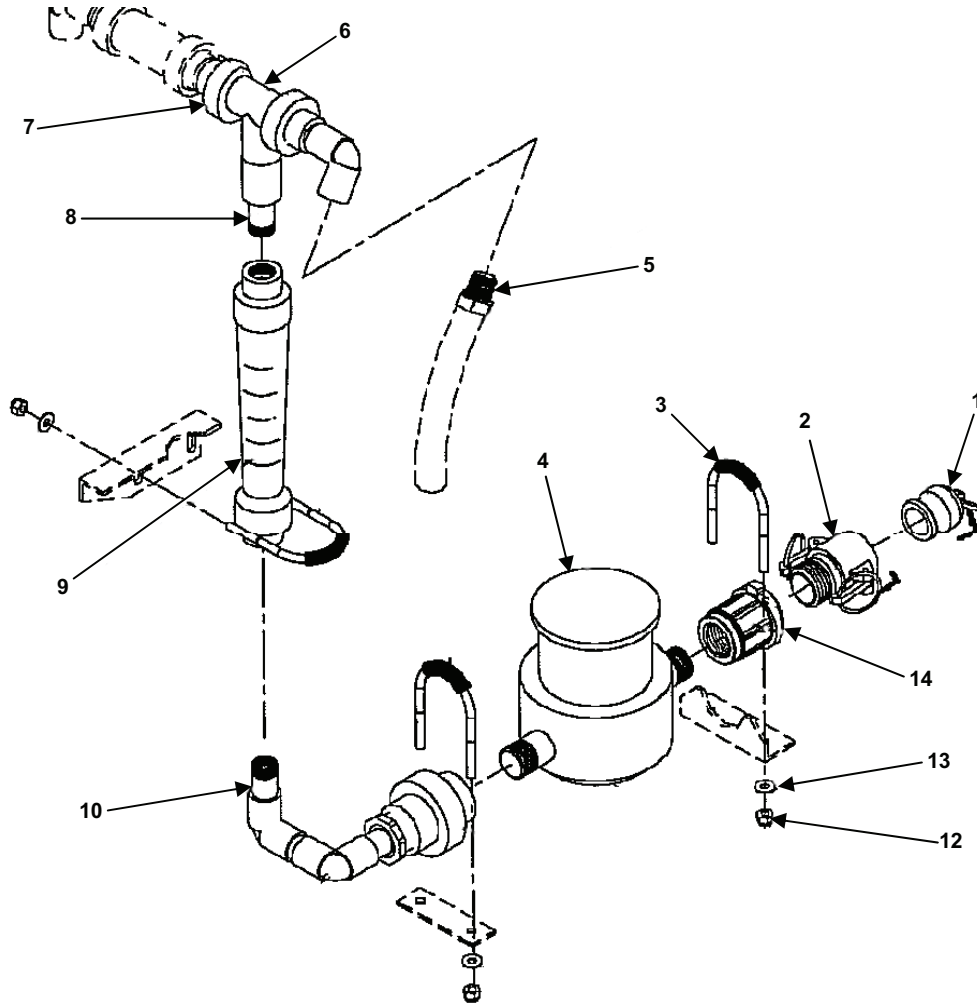

Figure 2. Product Inlet Piping.
1. Loosen the union (Figure 2, item 7) on the 3-way ball valve (Figure 2, item 6).
2. Remove U-bolts (Figure 2, item 3) by removing nuts (Figure 2, item 12) and washers (Figure 2, item 13).
4. Remove flow meter (Figure 2, item 9), if necessary, by unthreading from adapters (Figure 2, item 8) and (Figure 2, item 10).
5. Remove dust plug (Figure 2, item 1), female camlock (Figure 2, item 2), female adapter (Figure 2, item 14), 3-way valve (Figure 2, item 6), and totalizer (Figure 2, item 4) only if necessary.